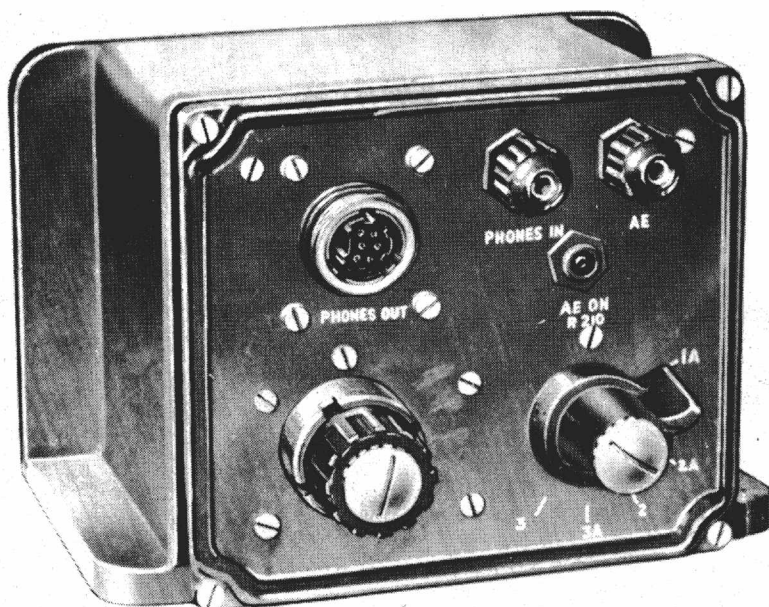

FIG.4 AERIAL TUNING UNIT FOR RECEPTION SET R210
### (2) The Aerial Tuning Unit (Fig. 4)